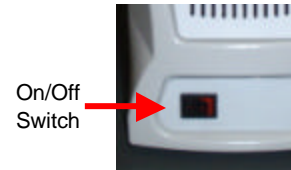

Figure 2
2. Place the Power Switch in the "OFF" or "0" position. See Figure 2.